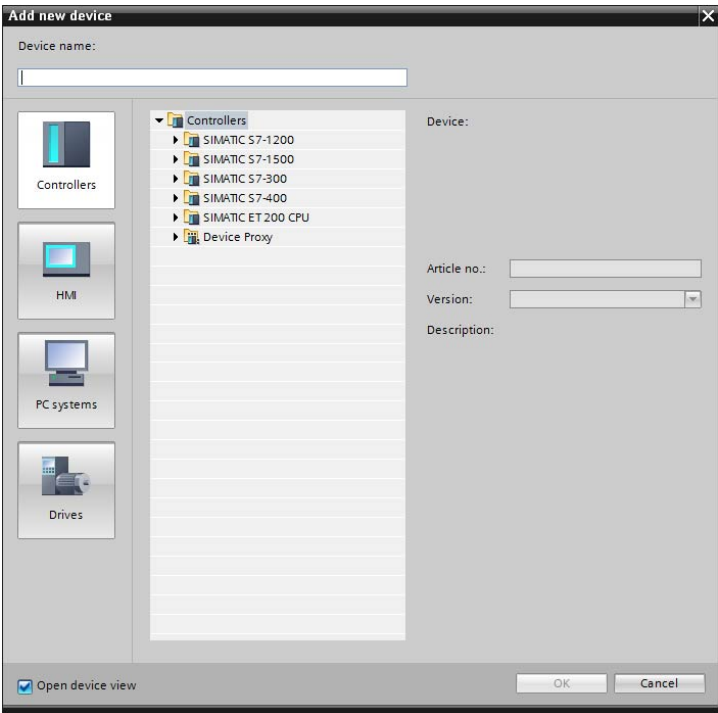

Figure 73. PLC Selection Window
7. Click **Add new device** and the window shown in Figure 73 appears.